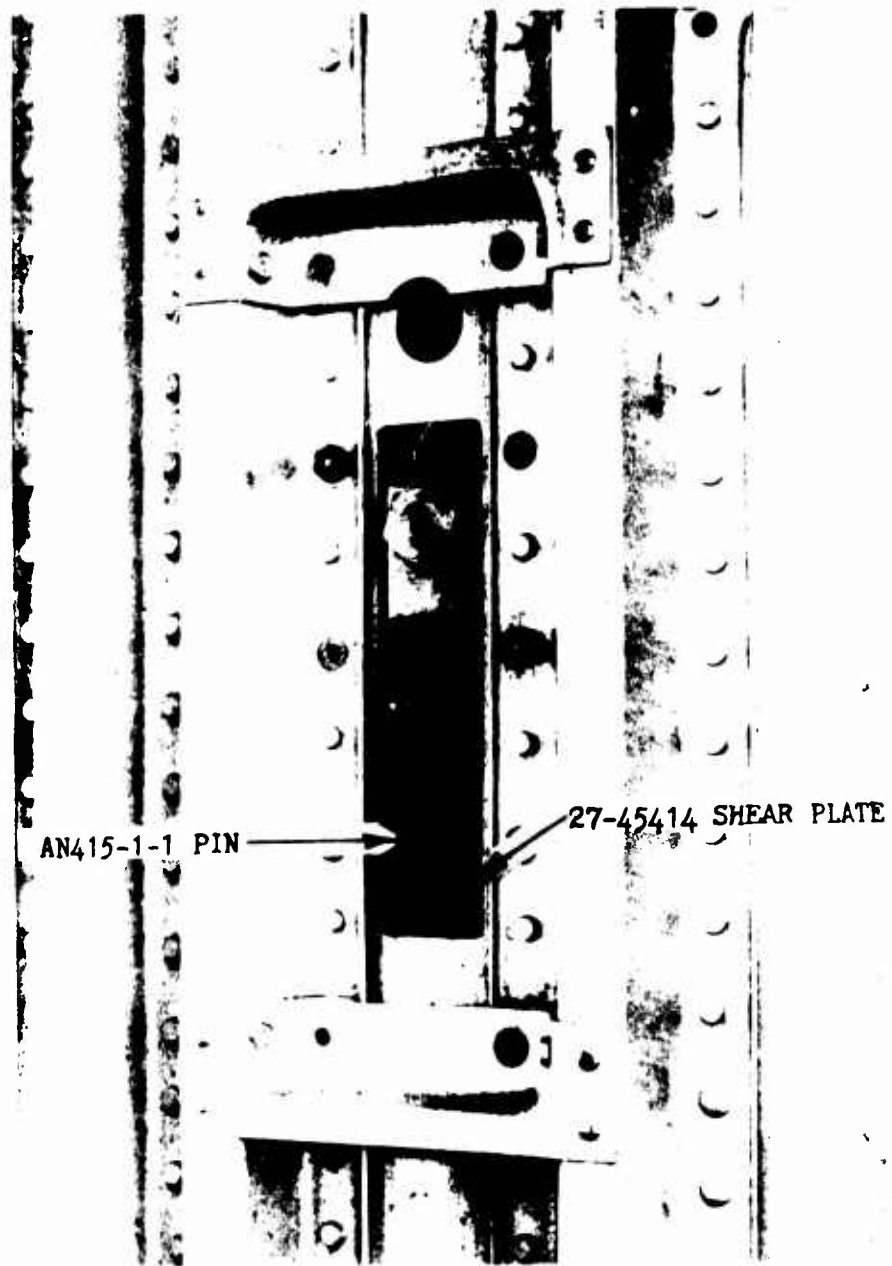

FIGURE 7
- k. Replace the 27-45414 shear plate and the AN 415-1-1 pin (See Fig. 7).